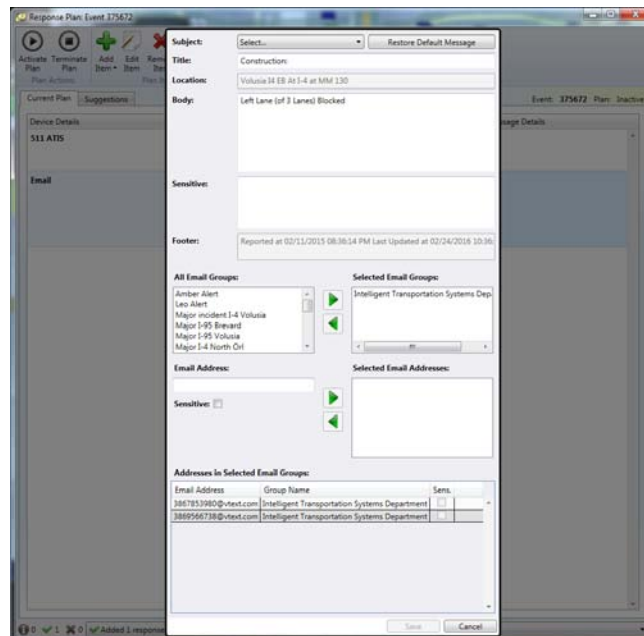

Figure 3-187 – Response Plan Email Editor Screen
- **Add Email**(see Figure 3-187): If the email entry had previously been removed from the response plan this button will be active, if selected an edit dialog will be displayed so an email message can be composed. The email will then be included in the recommended response plan.